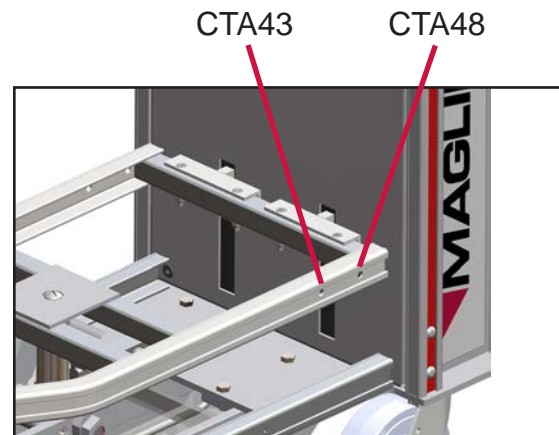

Figure 2
- 5) Locate the front hole on the deck (for CTA43 models) or the back hole on the deck (for CTA48 models) as shown in Figure 2. Insert the pallet stop (B) and the screw (A) as shown. Fasten screw with 5/16"-18 lock nut (C) using the 1/2" socket end wrench on the lock nut on the inside of the deck frame channel.